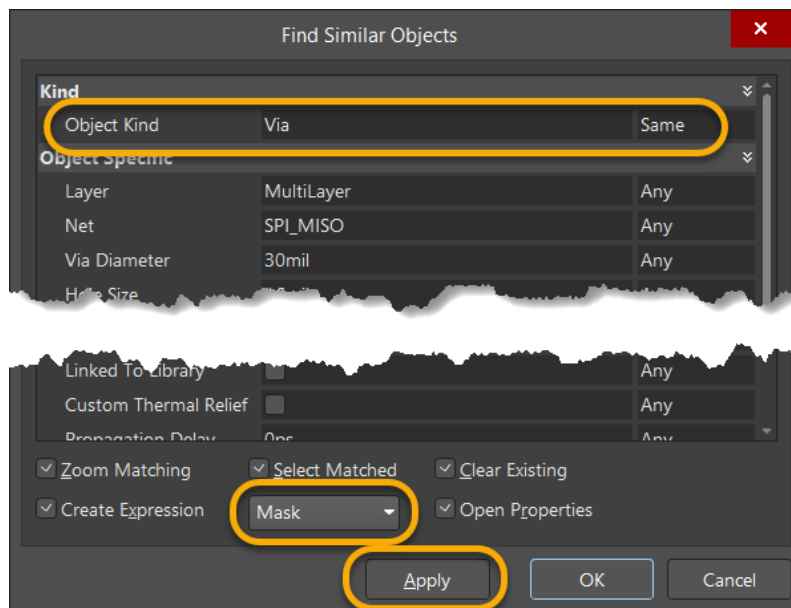

Figure 8. FSO for the selected Via
30. The *FSO* dialog will appear, displaying via parameters as shown in Figure 8 below. Note that by default the *Object Kind* is set to a scope of **Same**.